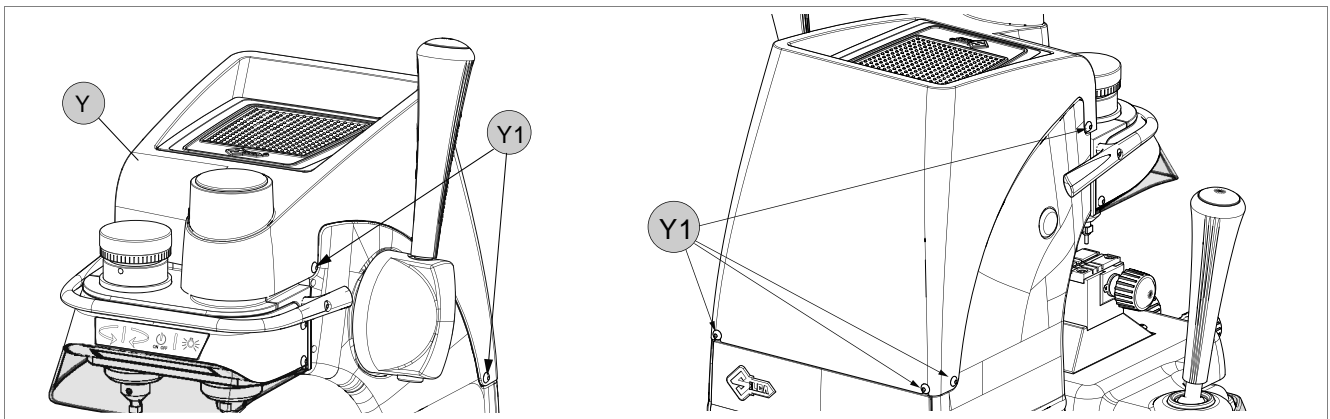

Fig. 35
- 2) Remove the 6 screws (Y1) to detach the top safety guard (Y) (Fig. 35).
- 5) Replace the safety guard (Y) and secure with the 6 screws (Y1) (Fig. 35).